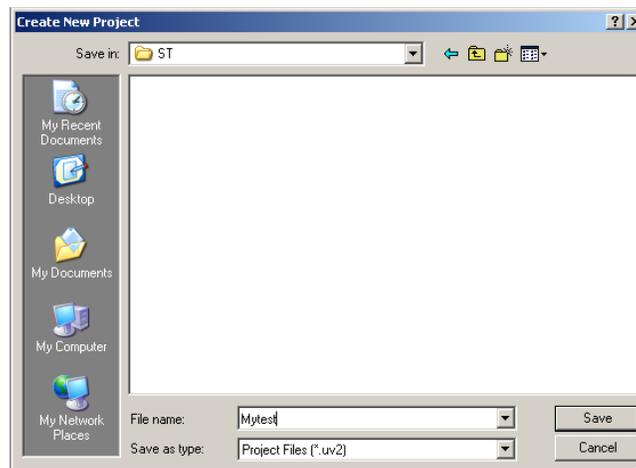

Figure 8 Creating a new project name: Mytest
4. Double-click on the newly created folder "ST" to enter this folder as is shown in Figure 8.